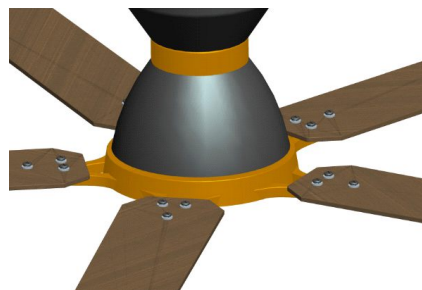

Fig 7.2
7.2 Five blades installed. (See Fig 7.2)